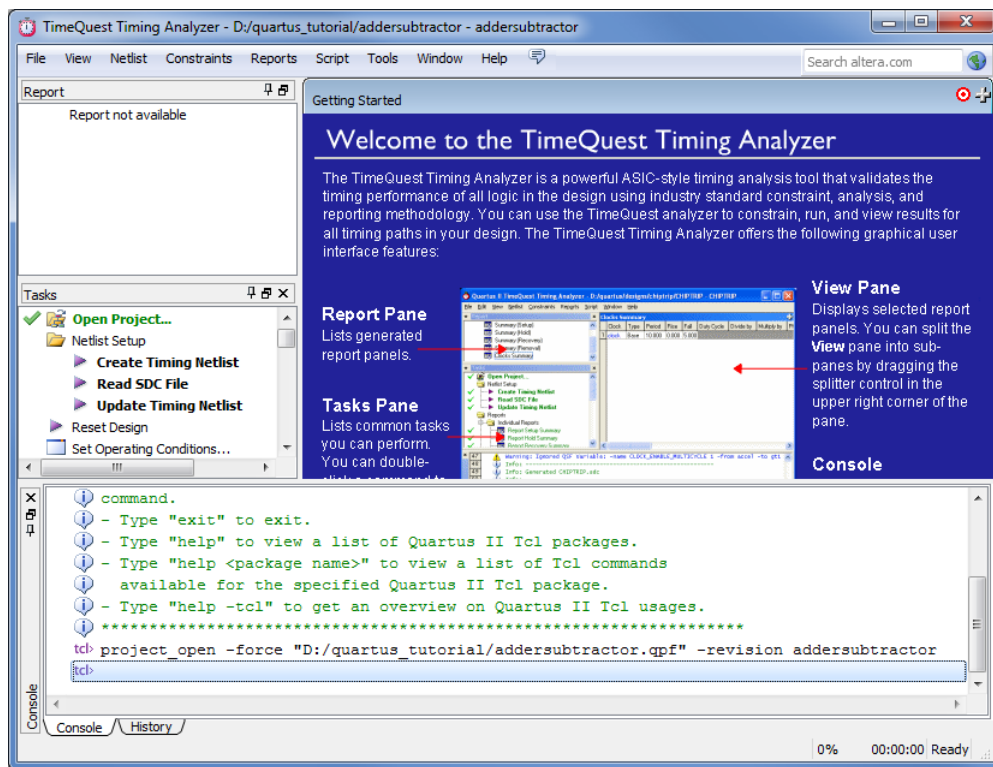
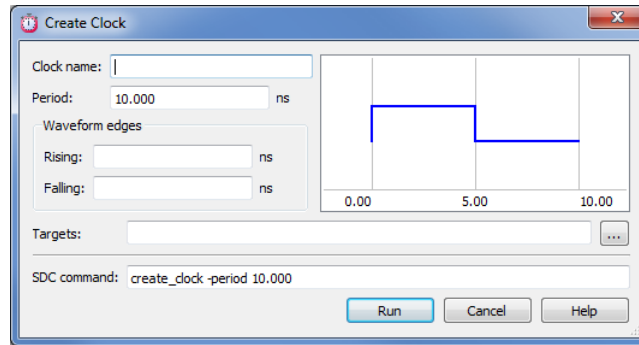
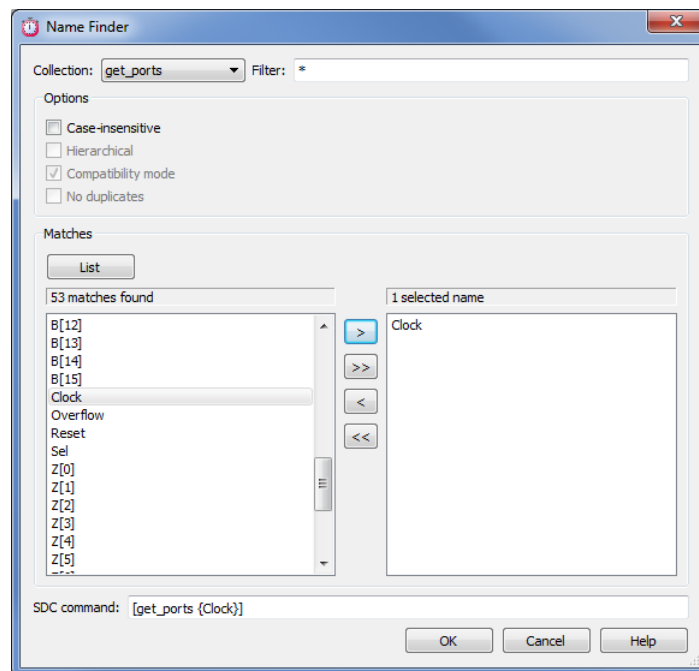
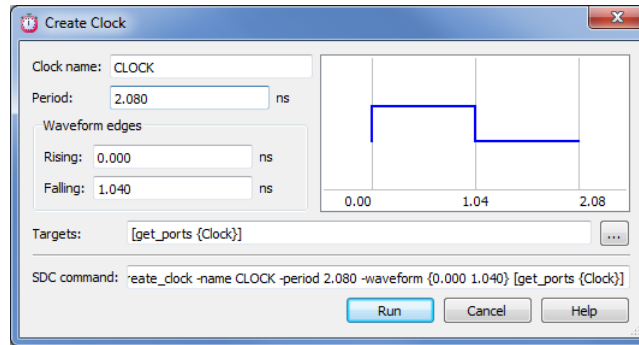

Figure 31: TimeQuest Timing Analyzer.
Figure 32: Create clock constraints.
Figure 33: Choose target clock.
Figure 34: Complete clock constraint.
1. Open TimeQuest Timing Analyzer by selecting **Tools > TimeQuest Timing Analyzer**, or by clicking the icon . Figure 31 shows the interface of TimeQuest Timing Analyzer. It is a very powerful tool for the designer to create, manage, and analyze timing constraints, and to quickly perform timing verification for their design. The compilation in Section 4 produced the f_{max} of 476.87 MHz, which translates to a minimum *period* of 2.097 ns. Suppose that we need a circuit that can operate at a clock frequency of 480 MHz. We can use the TimeQuest Timing Analyzer tool to create a new SDC (Synopsys Design Constraints) file containing the clock constraint.
In the TimeQuest Analyzer window, double click **Create Timing Netlist** under the **Tasks** heading to generate the timing netlist from database created after compilation. Then select **Constraints > Create Clock** from the menu to reach the dialog box in Figure 32. Specify a name for the clock you want to constrain. This name can be used to refer to this clock when creating other timing constraints. For this example, we will name the clock "CLOCK". As we want the circuit to operate at a clock frequency of 480 MHz, set the period to 2.08 ns in the **Period** field. To specify the actual clock this constraint is applied to, click on the ... button beside the **Targets** field in the **Create Clock** window to get the pop-up window in Figure 33.
Click on the list button in the middle left of the window to get a list of all the ports. Select **Clock** from the list of matches on the left and click on the > button to reach the display in Figure 33. This tells the TimeQuest Timing Analyzer to constrain the **Clock** port to the period you have specified. Notice in a larger design with many ports, we can enter the name of the port in the **Filter** field located in the top right of the window to reduce the number of matches in our search. Click **OK** to return to the dialog box in Figure 34.
In the SDC command field at the bottom of the dialog box in Figure 34, we can see the actual command that would be written into the SDC file. It creates a simple clock named `CLOCK` with a 2.08 ns period and associates this constraint with the port `Clock`. Click **Run** to return to the window in Figure 31. Select **Constraints > write SDC File** and save the file as *addersubtractor.out.sdc* in the project directory *quartus_tutorial*. Close the TimeQuest Timing Analyzer window to return to the Quartus® II main display.